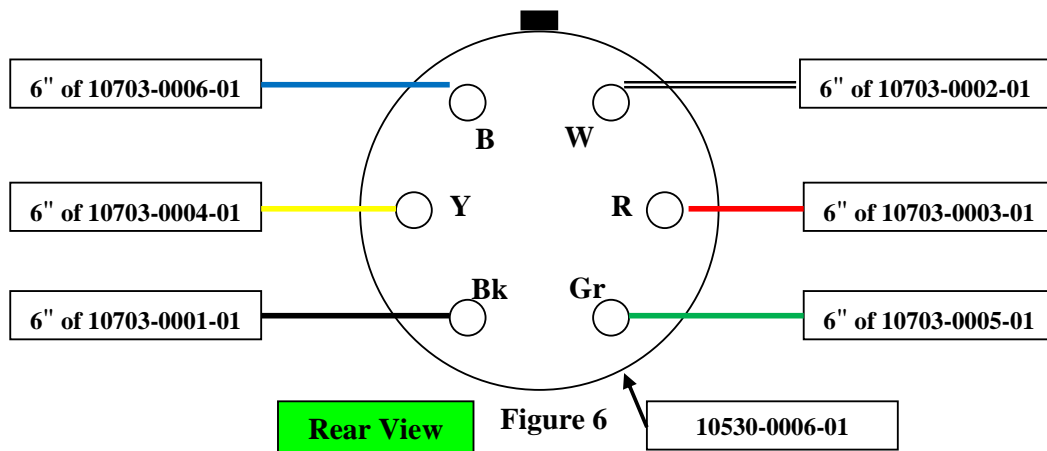

Figure 6
- 5.2. Solder each wire carefully into the solder cups of the 6 Pin Panel Mount Lemo (10530-0006-01) as shown in Figure 6.